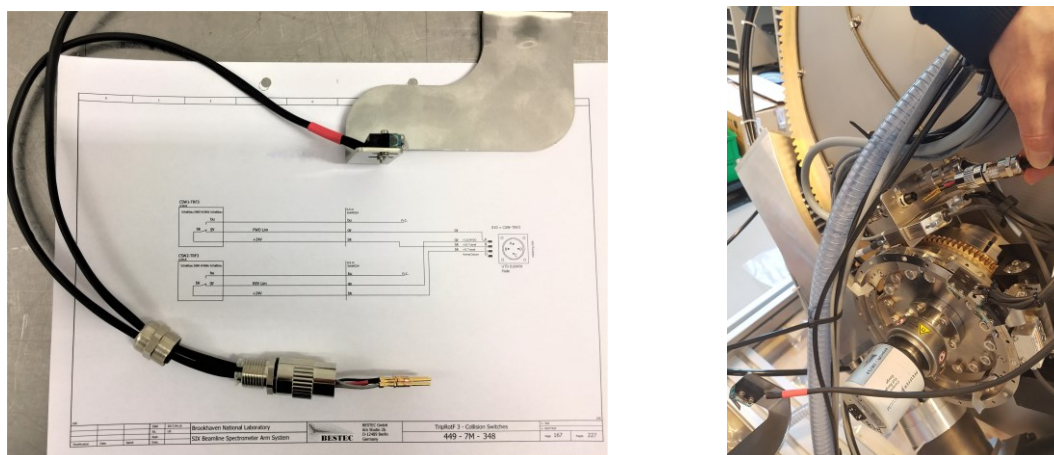

Figure 40: Collision detection switches
24. Note, that the collision detection switches (CSW1-TRF3 and CSW2-TFR3) have to be electrically connected as shown in Figure 40.